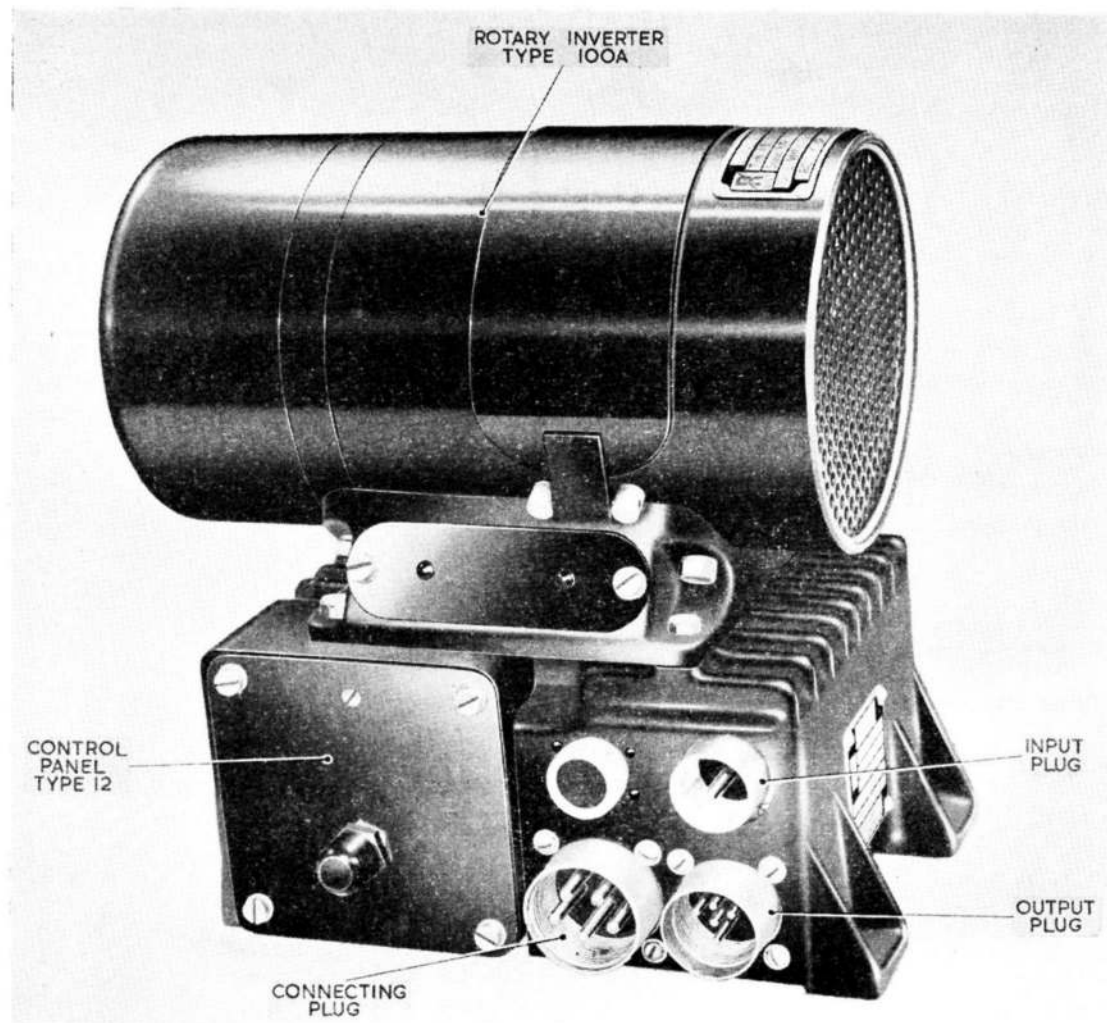
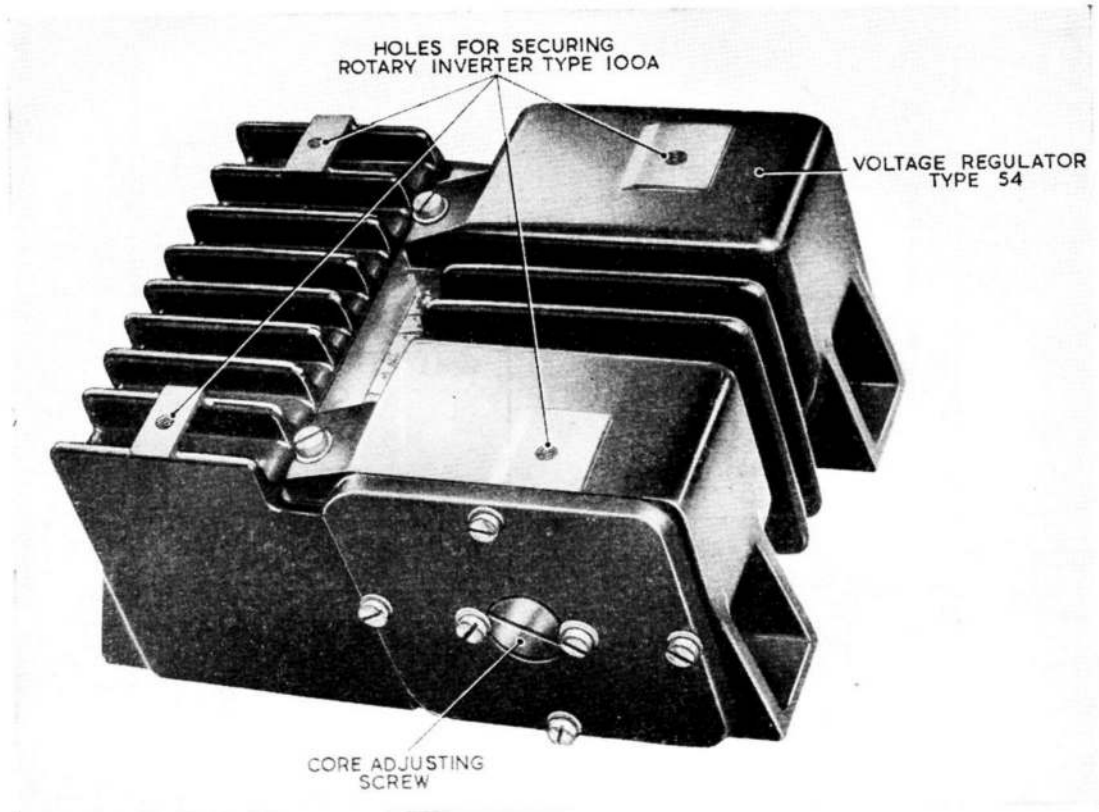
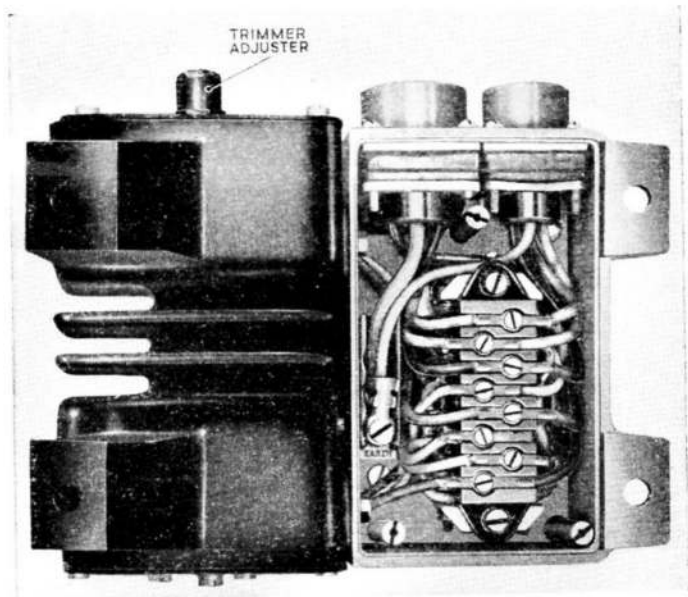

Fig. 1. Control panel, Type 12, with rotary inverter, Type 100A
Fig. 2. Control panel, Type 12
Fig. 3. View of underside of control panel
1. The control panel, Type 12, is used to regulate the output of the rotary inverter, Type 100A, which is described in Sect. 16 of this publication. The inverter may be mounted directly on the control panel, four fixing holes being provided on the latter for this purpose, as indicated in fig. 2; there are four possible mounting positions, one of which is shown in fig. 1. Alternatively, the inverter may be mounted remote from the control panel, to suit an individual installation; connection is made in each case by the connecting plug shown in fig. 1 and a corresponding plug on the inverter. A circuit
2. The control panel (fig. 2) incorporates two main castings secured together; one houses a voltage regulator, and the other (shown with the base cover removed in fig. 3) contains a rectifier, suppressor, and terminal block. Access to the 8-way terminal block is gained by removal of the base plate; there is in addition an earth terminal, which may either be earthed to the case, or taken through a plug situated alongside the d.c. input plug to a remote earth.
5. Adjustment of the magnet core is made by means of the screw shown in fig. 2. The trimmer resistor, which is slotted for screwdriver operation, is brought out at the opposite side of the regulator, and so enables small voltage adjustments to be made without any dismantling.